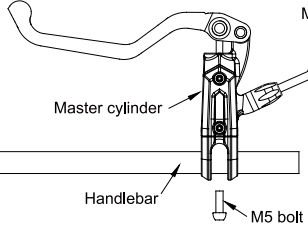

FIG.1
- Mounting the master cylinder/brake lever on handlebar with M5 screw bolt. Adjust its appropriate angle with position, then tighten it at a torque of 4-6Nm(35-53 in. lbs) (as shown in FIG.1).